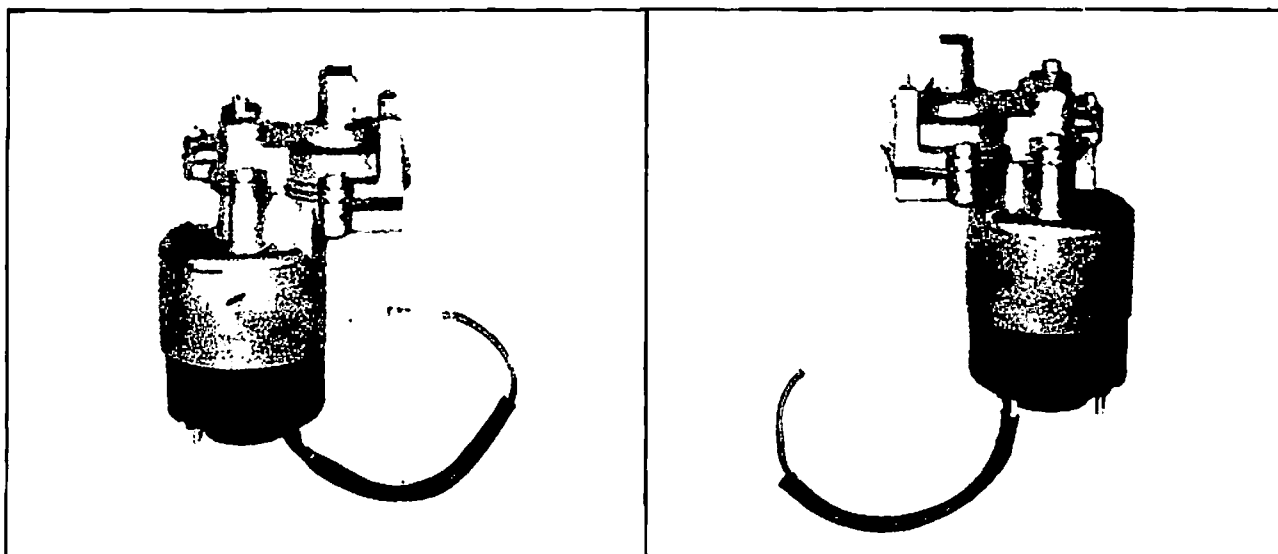

Figure 3-16
- (A) Determine if motor is right or left hand type. (Fig. 3-16)